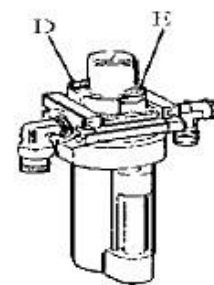

Fig 9
tread Jaws open and close Pedal or Turntable Rotation Pedal 5-6 times, and then check whether oil in Oil Fog Maker drops down a drip of oil. For continuous operation, tread twice every time, drop down a drip of oil, otherwise adjust the screw (D) that controlled oil enter with minus screwdriver. (Fig 9)